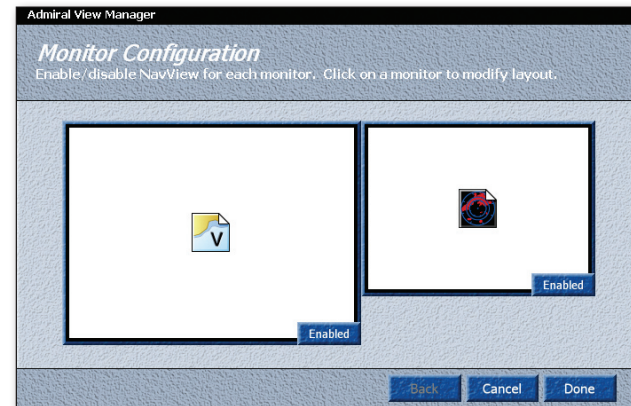

Figure 12.6 - View Manager - Multiple Monitors
3. If multiple monitors are connected to the PC, you will see the dialog shown in **Figure 12.6**. If you are using multiple monitors, select to enable/disable monitors and then click on the monitor for which you would like to create a new layout.